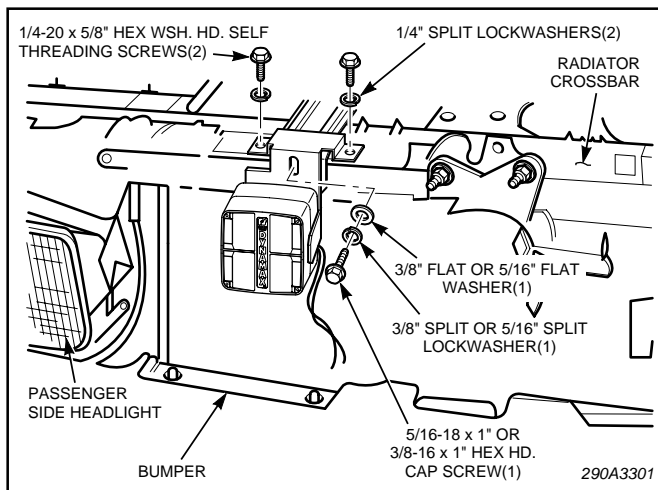

Figure 3.
5. See figure 3. Place the speaker/bracket assembly over the passenger-side motor-mount bracket. Using the bracket as a template, scribe two drill position marks on the radiator crossbar.
8. See figure 3. Place the speaker/bracket assembly in position between the radiator and grille. If necessary, adjust the speaker on the bracket to avoid interference on the speaker sides.
9. For the 1995 Lumina, secure the speaker/bracket assembly to the top of the radiator crossbar using the 1/4 x 5/8" thread-forming bolts. Secure the speaker/bracket assembly to the front of the radiator crossbar using the 3/8-16 x 1" bolt, 3/8" flat washer, and 3/8" lockwasher as shown in figure 3.
For the 1996 and newer Lumina, secure the speaker/bracket assembly to the top of the radiator crossbar using the 1/4 x 5/8" thread-forming bolts. Secure the speaker/bracket assembly to the front of the radiator crossbar using the 5/16-18 x 1" bolt, 5/16" flat washer, and 5/16" lockwasher as shown in figure 3.